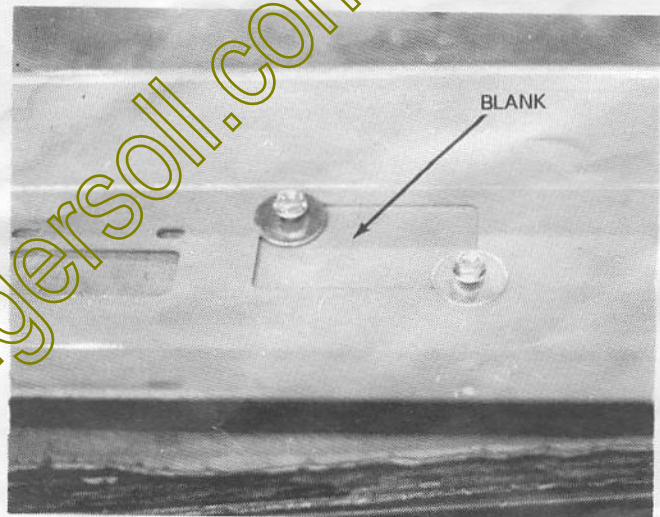

FIG. 15
d. Remove the blank from the shift cover as shown in FIG. 15. Install the shift cover over the SHIFT and PTO levers and secure with the 4 each phillip head screws removed in preparation step 5. Install the SHIFT lever and PTO lever knobs.
10. Connect the male (19B) quick coupler to the hydraulic line (19) and tighten securely. Attach this line to the rear PTO "OUT" port and attachment motor "IN" port. Connect the female (19D) quick coupler to the attachment return hose furnished with the attachment and tighten securely. Install the dust plug (19E) and dust cap (19C) on the quick couplers. (NOTE: If a 3 Point Hitch is install with the HP32 you must use the 45 degree fittings (19A) with the quick couplers to gain proper clearance.)
11. Install the case drain line (22) to the travel control valve: